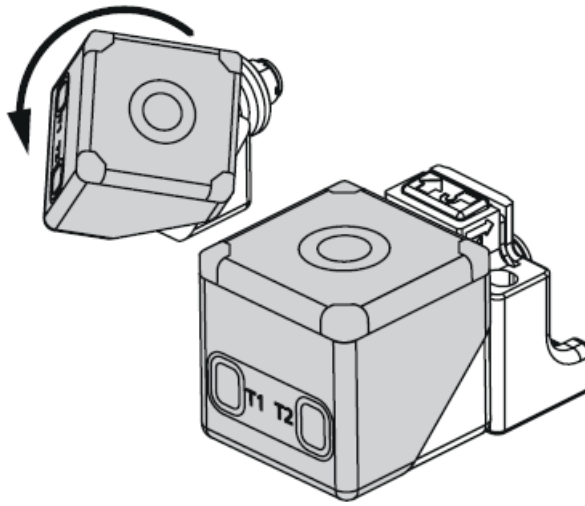

Fig. 8: Rotatable sensor head
- **Rotatable sensor head:** The cube sensor has a rotatable sensor head, with which the orientation of the sensor can be rotated by 180° (Fig. 8).